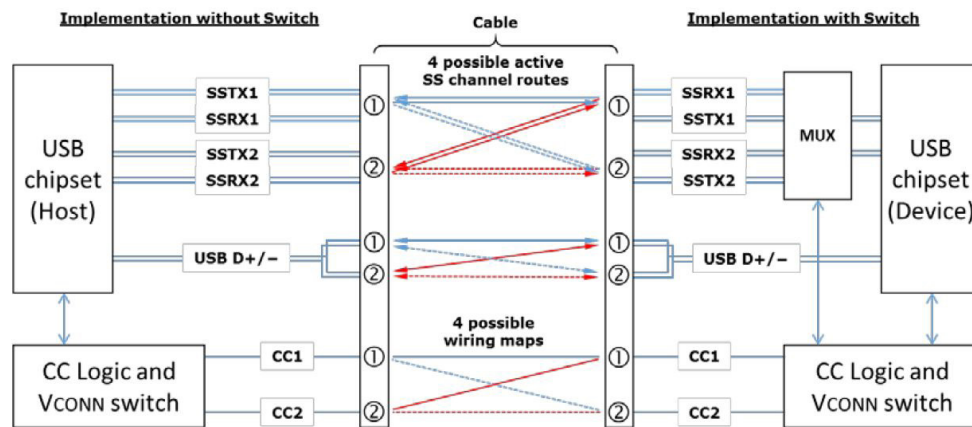

Figure 11. USB 3.1 data bus connection for Type-C receptacle connected to Type-C receptacle.
All USB 3.1 applications that incorporate a Type-C receptacle are required to include the USB 3.1 switch. The reason for this is that when you have a Type-C cable connecting two Type-C receptacles, the cable orientation and twist is not fixed. As a result, there are four possible connected states that exist when viewed by either the Type-C host or device. These possible states are illustrated in **Figure 11**. It does not matter if the application is for a DFP or UFP. If it incorporates a Type-C receptacle, the USB 3.1 switch is required to route the transceiver (TX) and receiver (RX) signal pairs. Texas Instruments HD3SS3212 is an example of a bidirectional passive switch that can be configured in either the mux or